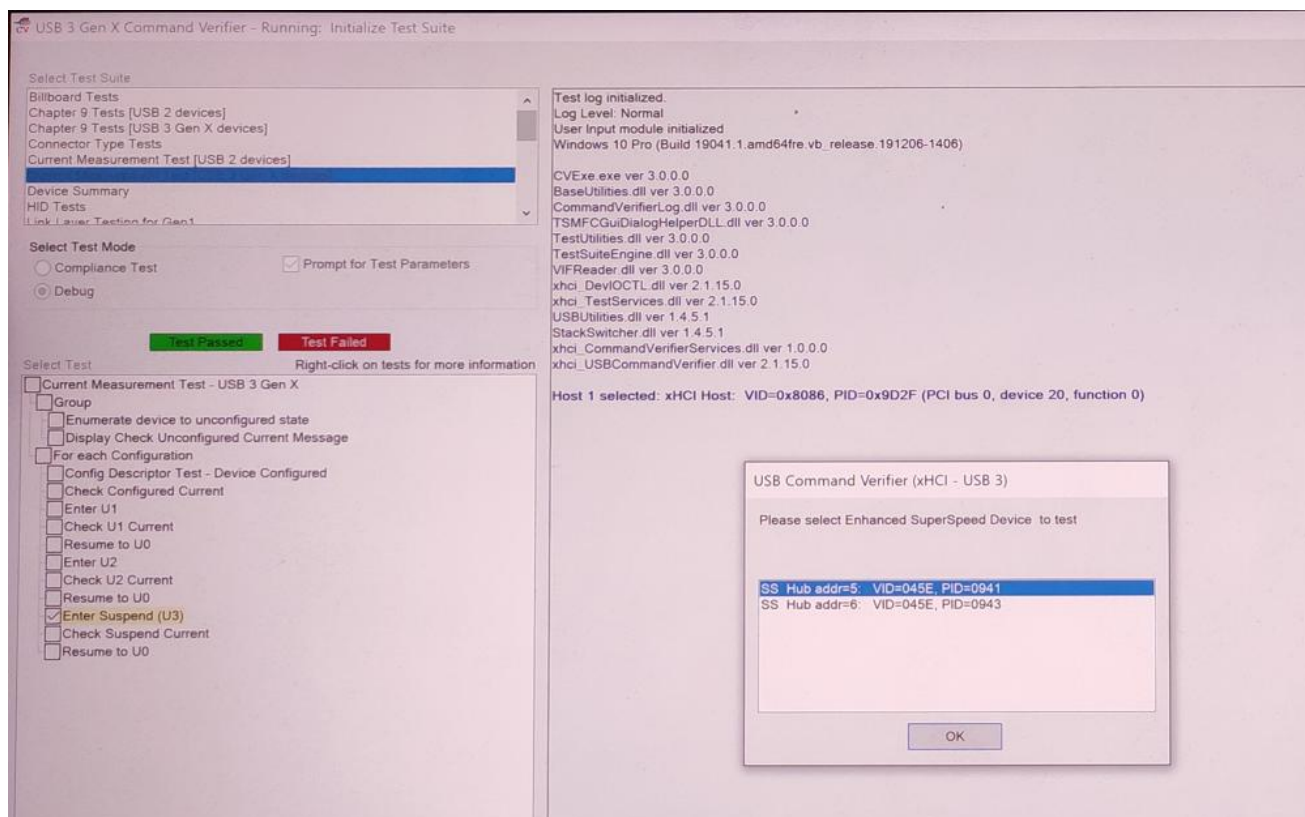

FIGURE 7.2: SELECT AND EXECUTE TD 4.9.1 ENTER SUSPEND (U3) TEST IN CV TOOL
1. Refer to Figure 7.2 below on the following: